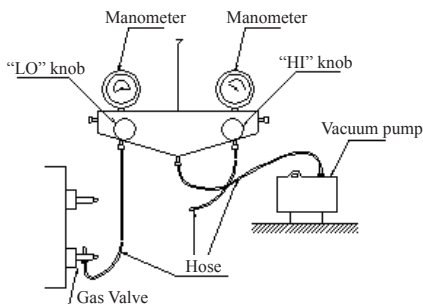

Fig.8
- 3) As shown in the following figure (Fig.8), expel the gas inside the indoor unit and refrigerant pipe out by the vacuum pump.